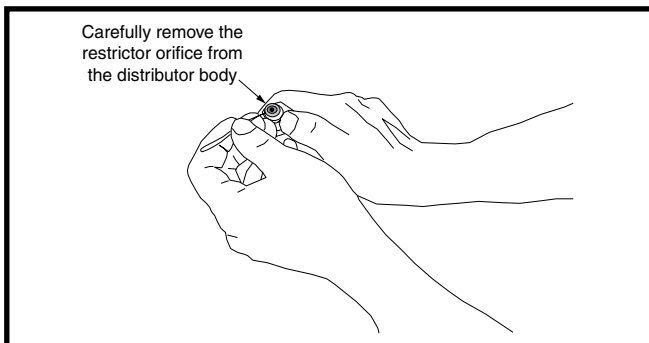

Figure 3. Removal of Orifice
2. Insert a light-gauge wire hook between the distributor body and the restrictor orifice while being careful not to scratch either part. Carefully remove the restrictor orifice from the distributor body. See Figure 3. Factory supplied orifice sizes are listed in Table 1 (page 6). If the orifice must be replaced, follow steps 1 - 5